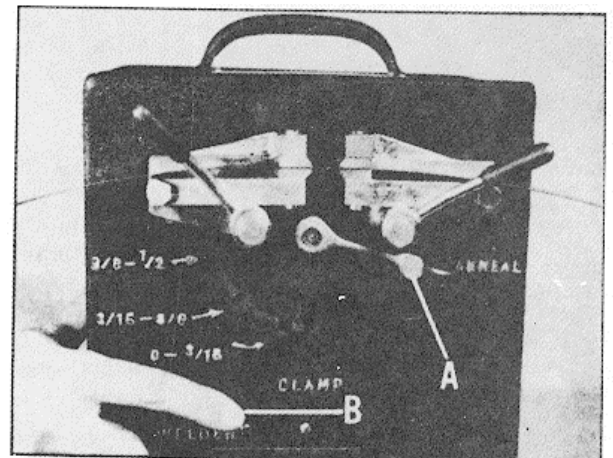

Fig. 4.
6. Unclamp the blade and move weld control lever (A) Fig. 4 to "anneal" as shown.
7. Center the weld between the jaws and reclamp the blade. Gently tap the welder button (B) Fig. 4 until the blade shows dull red. (DO NOT HOLD THE WELDER BUTTON IN.)